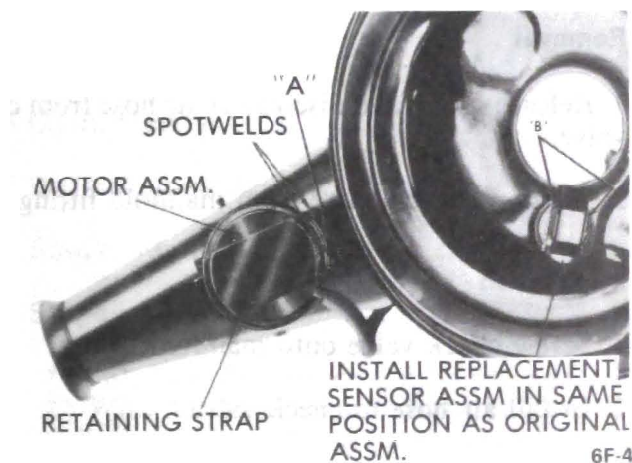

Figure 6F-4 - Replacing Vacuum Motor Assembly
3. Remove vacuum motor retainer strap. See Figure 6F-4.
5. Drill a 7/64" hole in snorkel tube at point "A" as shown in Figure 6F-4.